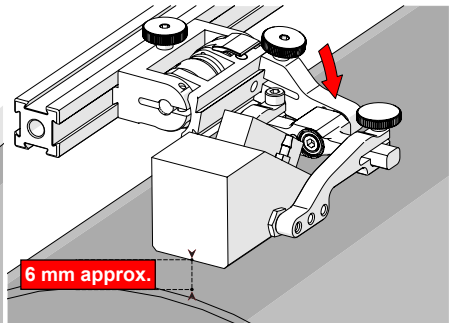

Fig. 110 - Lower to scanning surface
2. Push the probe holder yoke down toward the inspection surface until the wedge is approximately 6 mm ($\frac{1}{4}$ in) from the inspection surface (Fig. 110).